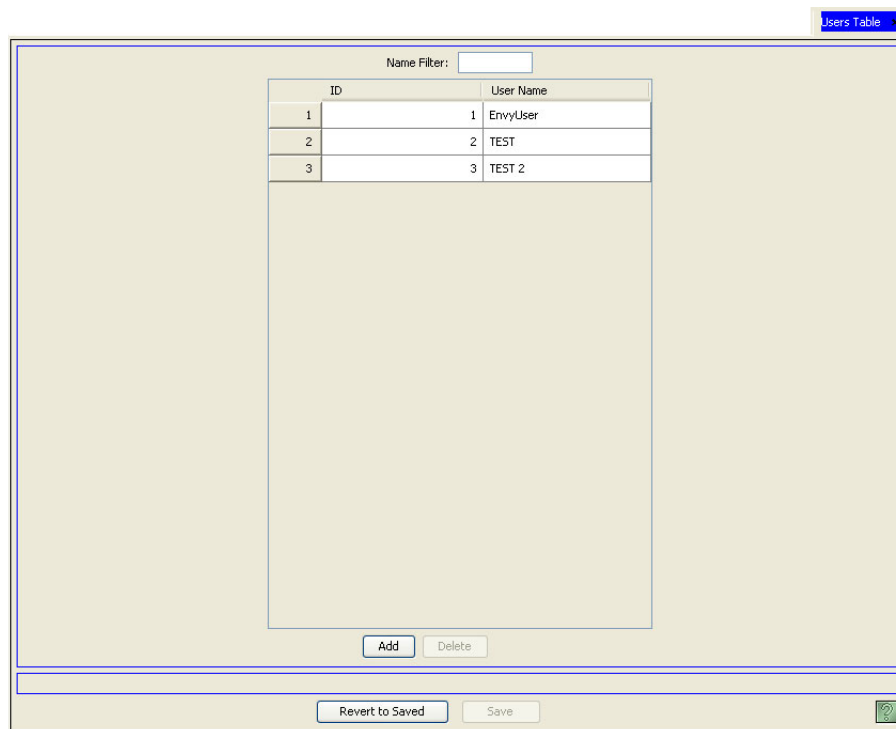

Figure 19-4. Users Table
- 2 From the Navigation area, select the 'Views' pane and then 'Users'. The 'Users' table appears, as shown in Figure 19-4.